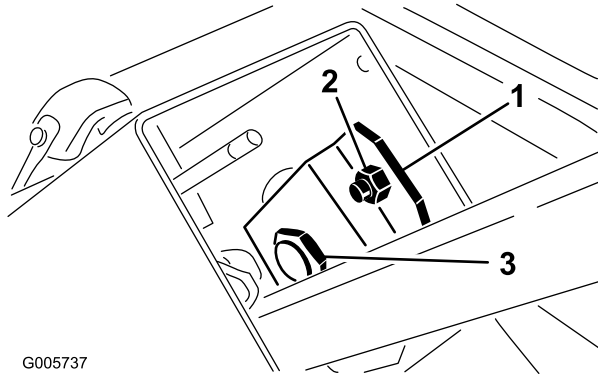

Figure 73
1. Remove knob from parking brake and self tapping screws from steering column cover. Slide cover up steering shaft to expose pivot bracket (Figure 73).
2. Loosen small nut, rotate pivot bracket until it tightens large nut below (Figure 73). Retighten small nut.